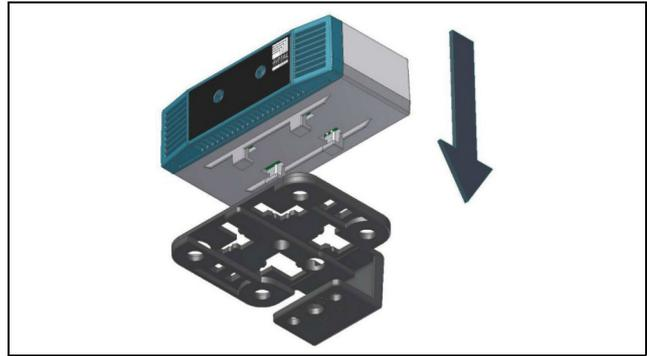
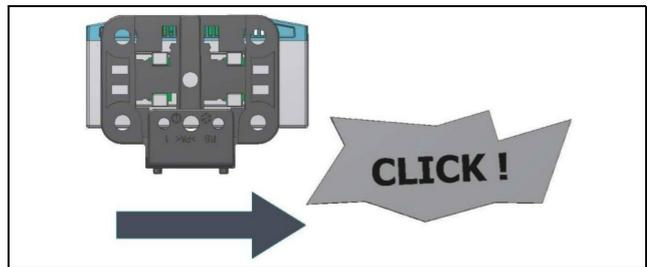

Fig. 2: Attaching the sensor to the bracket
Fig. 3: Latching the sensor into place on the bracket
- Then place the differential pressure sensor on the bracket (fig. 2) and latch it in place (fig. 3).